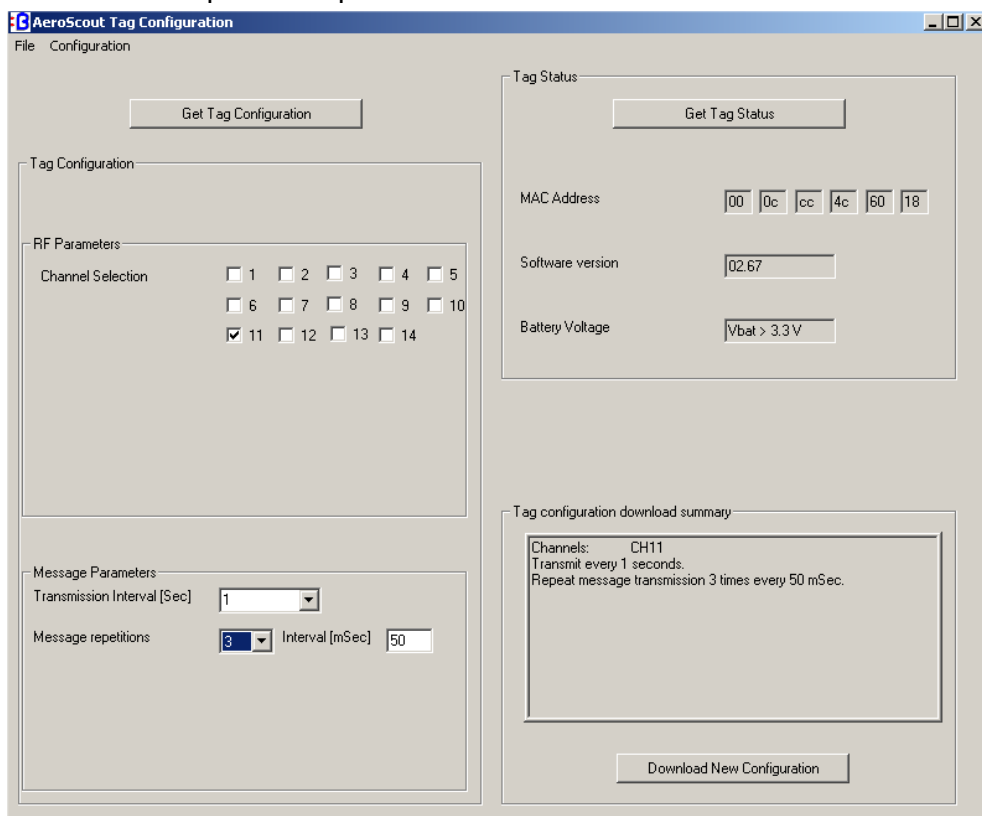

Figure 1: Tag Configuration Dialog Box
1. Select **Configuration → Tag → Tag Configuration** to open the Tag configuration application. The window shown in Figure 1: Tag Configuration Dialog Box appears. We need to update the picture